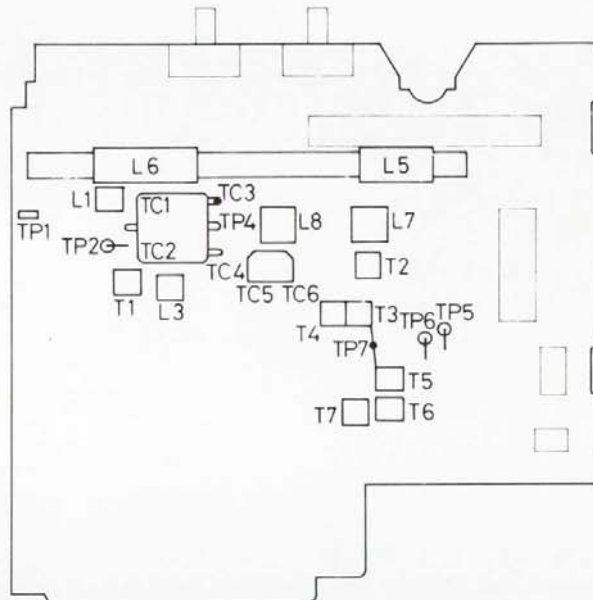

Fig. 7
1. Connect the sweep generator to the test point TP-2 (Refer to Fig. 7).
2. Connect the oscilloscope to the test point TP-5 (Hot) & TP-7 (Earth) (Refer to Fig. 7).